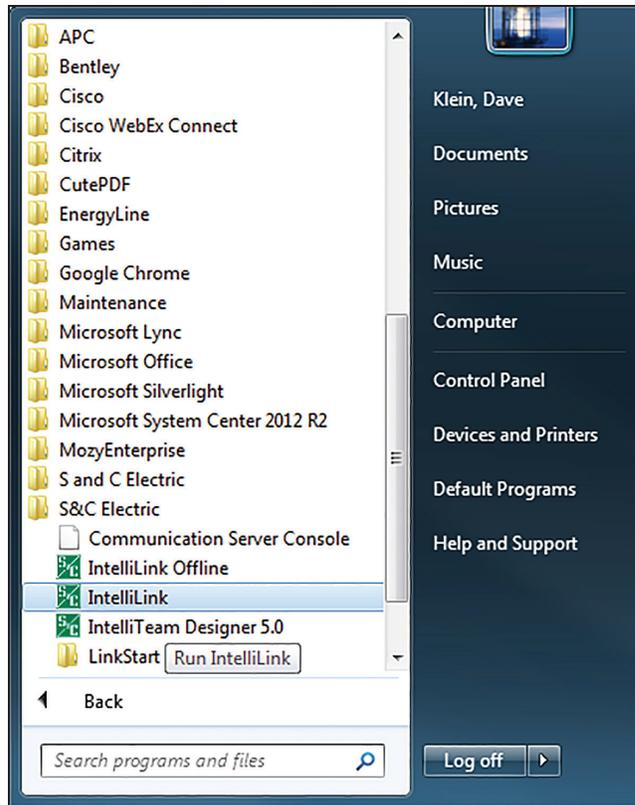

Figure 10. Start button program selection screen.
- STEP 3.** Select the **IntelliLink** option from *Start>All Programs>S&C Electric* screen. See Figure 10 on page 42.